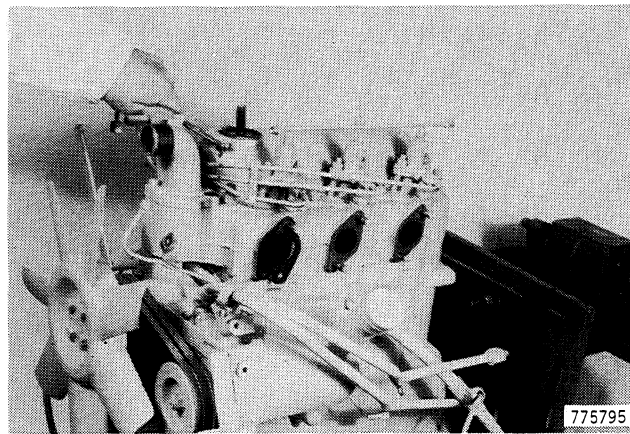

Figure 49
24. Remove the domed nuts and copper washers from the valve cover, Figure 49.